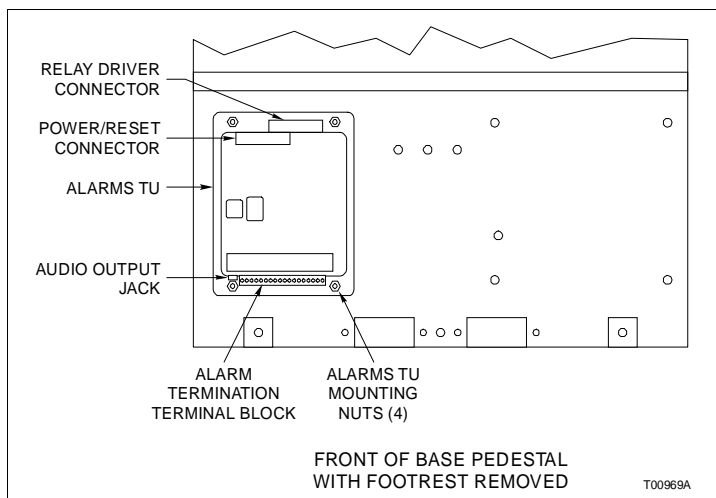

Figure PR8-1. Alarms TU Removal
- 3. Remove the alarm termination terminal block (Fig. PR8-1). There is no need to remove the wires.